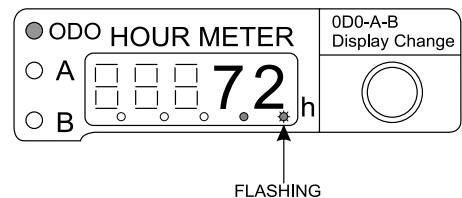

Figure 32. Hour Meter (Engine Start)
- Verify that right-most decimal (Figure 32) on the hour meter display is **flashing**.